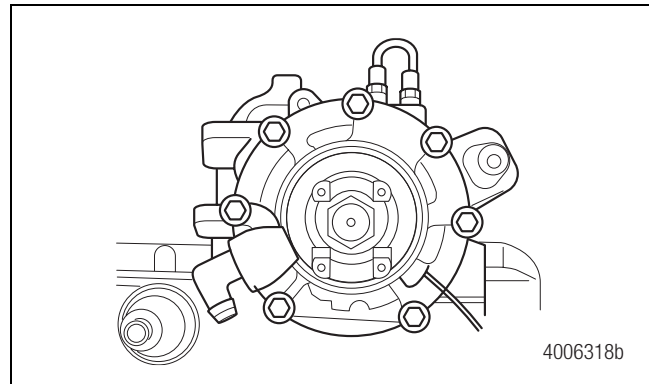

Figure 16
- Tighten the input cage bolts in a cross pattern to 85-115 lb-ft (115-156 N•m). Figure 16.